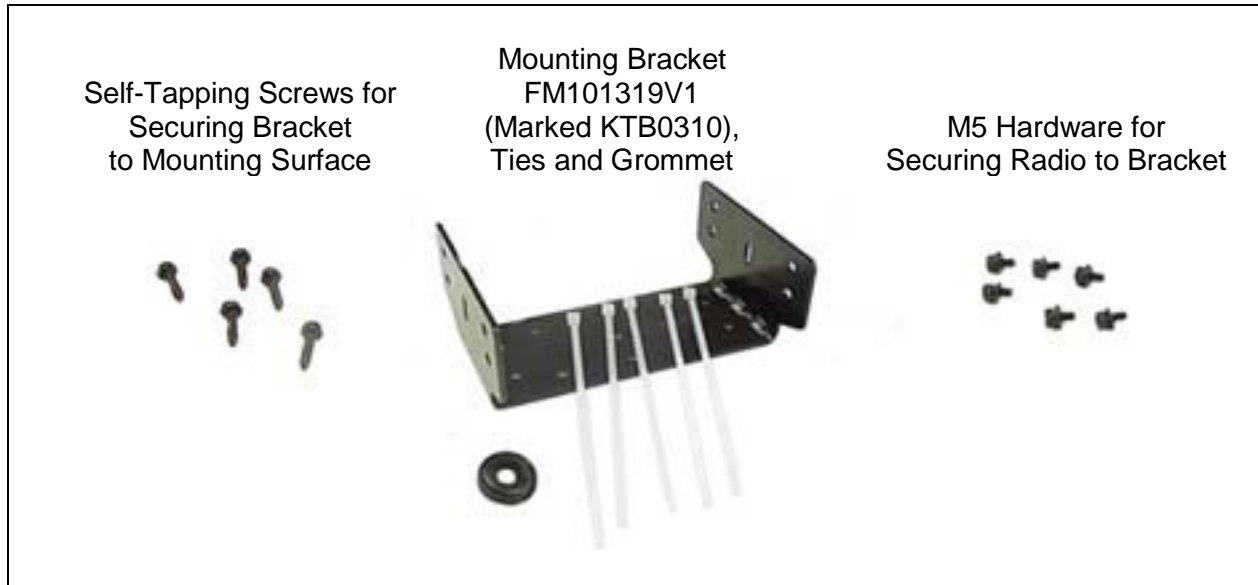
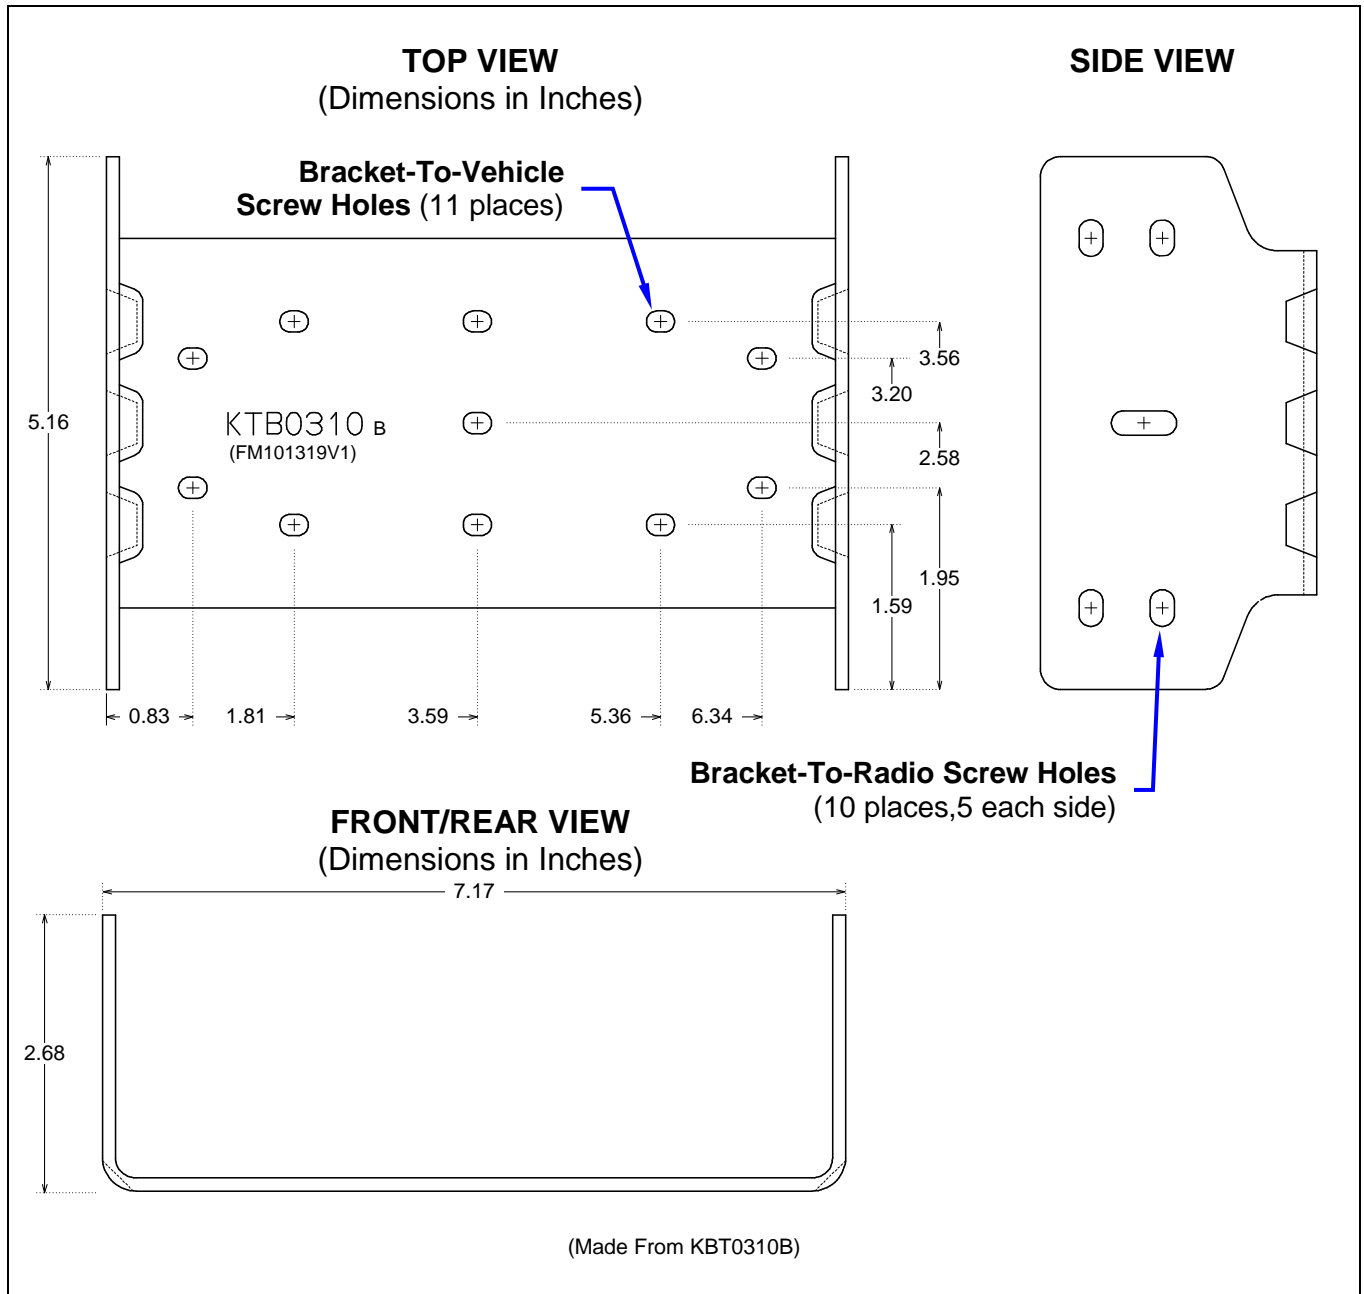

Figure 7-2: Front-Mount Mounting Bracket Kit KT101533V1
Figure 7-3: Mounting Bracket FM101319V1 (Marked KTB0310) Dimensions [for Front-Mount M5300 Mobile Radio (Radio Not Shown)]
The Mounting Bracket Kit for the front-mount M5300 mobile radio includes a heavy-gauge steel U-shaped mounting bracket. The radio should be attached to a mounting surface using this bracket. The bracket can be mounted above or below the radio. Kit contents are shown in Figure 7-2, and bracket dimensions are shown in Figure 7-3.
The front-mount M5300 radio's mounting bracket is included with the Front-Mount Mounting Bracket Kit KT101533V1. Kit contents are shown in Figure 7-2. This kit is Item 1 listed in Table 4-5 (page 27).
As illustrated in Figure 7-3, the bracket is both left-to-right and front-to-rear symmetrical. It has eleven (11) holes for securing it to a mounting surface. At least four (4) of these holes must be used to secure the bracket to the mounting surface. Five 20-millimeter-long self-tapping screws are included in the Mounting Bracket Kit for this purpose. However, some other type of hardware (not supplied) may be used, such as #10-32 stainless-steel self-locking hardware (i.e., machine screws with washers and locking nuts), or self-drilling screws. Self-drilling screws such as "TEK" screws do not require drilling of a pilot hole prior to installation. Do **not** use common self-threading sheet metal screws because they will loosen over time with vehicle vibrations.
2. Secure the radio to the bracket using at least four (4) of the six (6) M5 x 10 mm stainless-steel socket-head screws included with the Mounting Bracket Kit. These screws have captive lockwashers. Kit contents are shown in Figure 7-2. This kit is Item 1 listed in Table 4-5 (page 27).